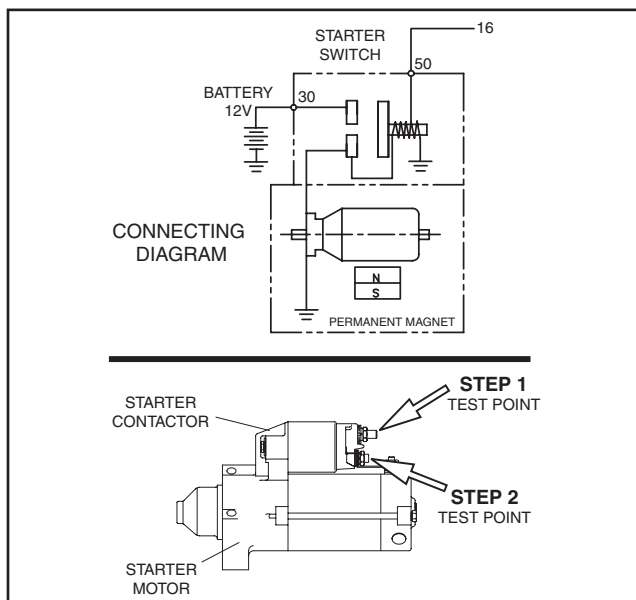

Figure 7-20. – The Starter Contactor (SC)
The Starter Contactor (SC) must energize and it’s heavy duty contacts must close or the engine will not crank. This test will determine if the Starter Contactor is in working order. The Starter Contactor is connected to the Starter Motor (see Figure 7-20).
1. Carefully inspect the starter motor cable that runs from the Battery to the Starter Motor. Cable connections should be clean and tight. If connections are dirty or corroded, remove cable and clean cable terminals and studs. Replace any cable that is defective or badly corroded. Set the VOM to measure DC voltage. Connect the positive (+) meter test lead to the Starter Contactor stud that the battery cable is connected to. Connect the negative (-) meter test lead to a clean frame ground. Battery voltage should be measured (see Figure 7-20, **STEP 1 TEST POINT**).
3. Set the VOM to measure DC voltage. Connect the positive (+) meter test lead to the Starter Contactor stud that has the small jumper wire connected to the Starter. Connect the negative (-) meter test lead to a clean frame ground. Set the Start-Stop Switch to “START”. Battery voltage should be measured (see Figure 7-20, **STEP 2 TEST POINT**).